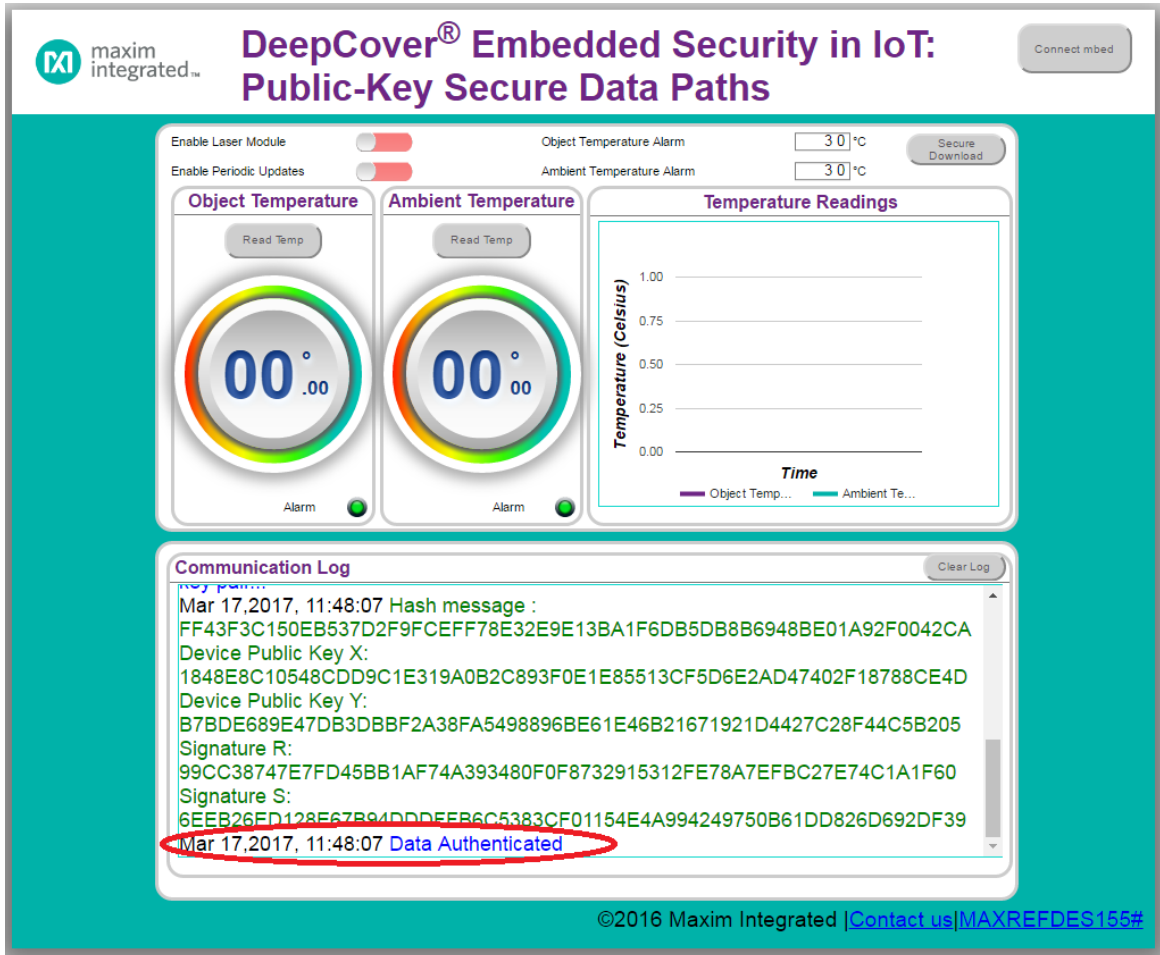

Figure 14. Web server verification that the mbed is Authentic.
10. Verify the web client shows **Data Authenticated** as in **Figure 14**. This is critical as it indicates from the web server that an authentic mbed connection has been recognized. Note: The example web client for this design utilizes a shared instance provided by Maxim for your convenience. Maxim makes no guarantees regarding reliability, availability, or data security when utilizing the shared web-client instance. The authenticated connection recognized in this demo is between the mbed and the web server.